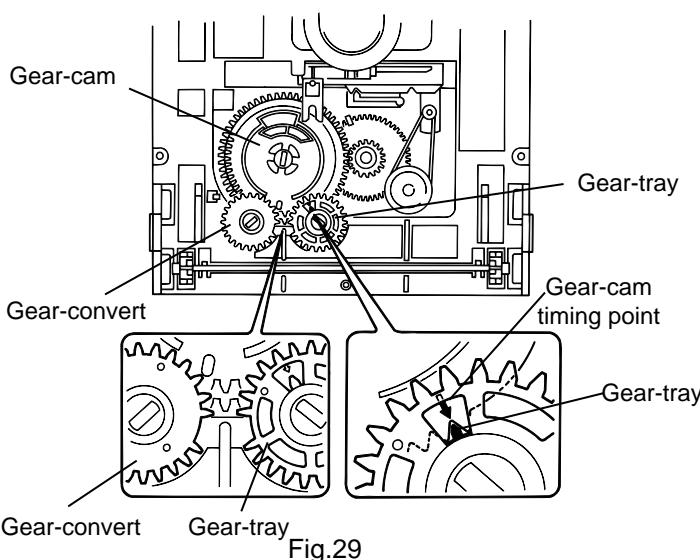

Fig.29
### ■ Reinstall the CD tray (See Fig.29 to 30)
- Align the gear-cam with the gear-tray as shown fig.29, then mount the CD tray.